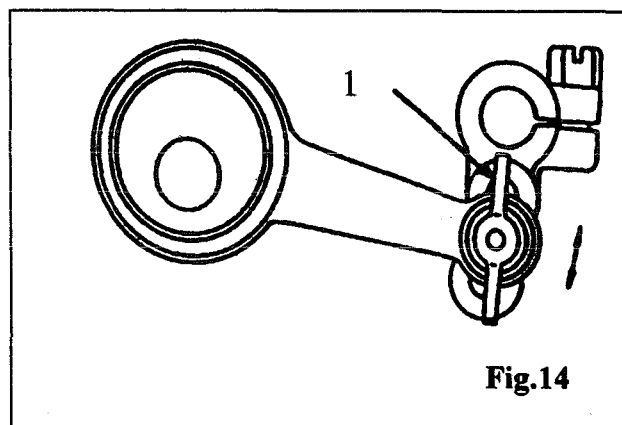

Fig.14
12. ADJUSTING THE LIFT OF THE ALTERNATING PRESSER FOOT (Fig.14)